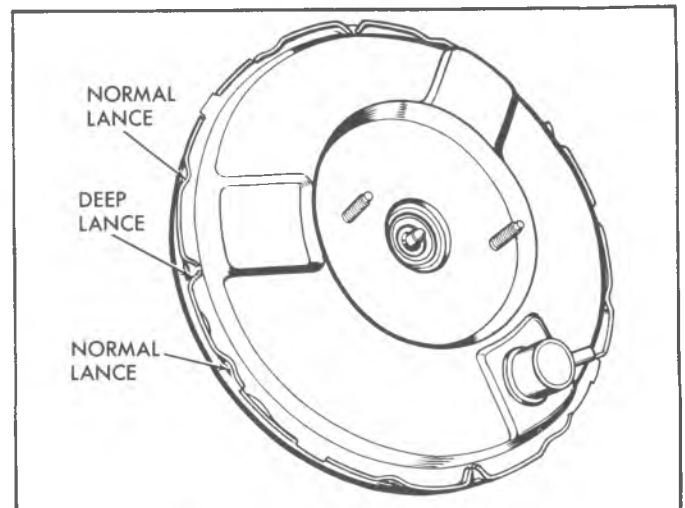

Fig. 3C-Lances in Rear Housing
8. The edge of the rear housing contains twelve lances. Four of these lances (one in each quadrant) are deeper than the other lances (fig. 3C). The metal that forms the four deep lances must be partially straightened so that the lances will clear the cutouts in the front housing. If the metal tabs that form the deep lances crack or break during straightening, the housing must be replaced.